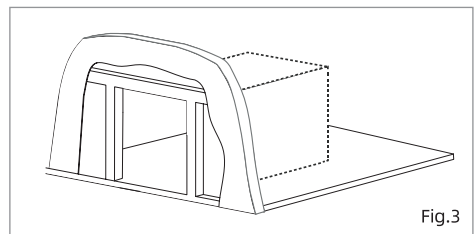

Fig.3
① RV Out-wall ② RV Flooring
5. Make sure the appliance is supported by a solid floor or platform with adequate weight-bearing capacity. (Fig.3)